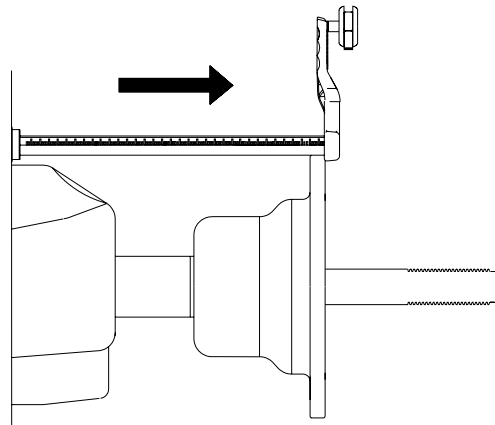

Figure 42
4. Gently pull the **SAPE** arm **OUT** until it is fully extended, (Figure 42) hold it steady for about 1 second or until beep.